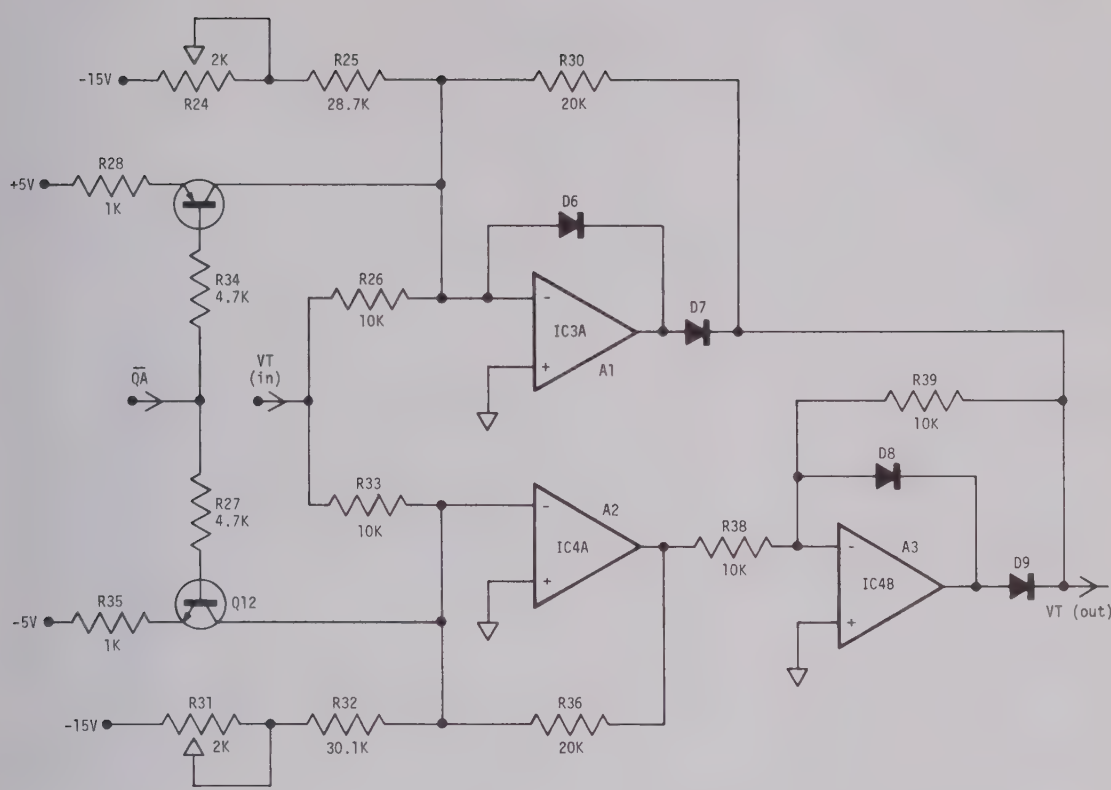

Fig. 21 Composite tuning voltage generator
69. The V_T (out) signal is generated by the circuit shown in Fig. 21. During the first half of the sweep Q12 is turned on by $\bar{Q}_A$, such that the input of A2 receives a sufficiently negative signal to saturate it with a positive output. A3 hence tries to saturate with negative output but, due to D8 and D9, its output remains at zero.